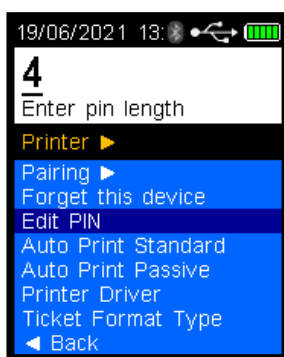

Figure 92 Enter Pin Length Displayed
- Press the test key, enter pin length will be displayed (Refer Figure 92).